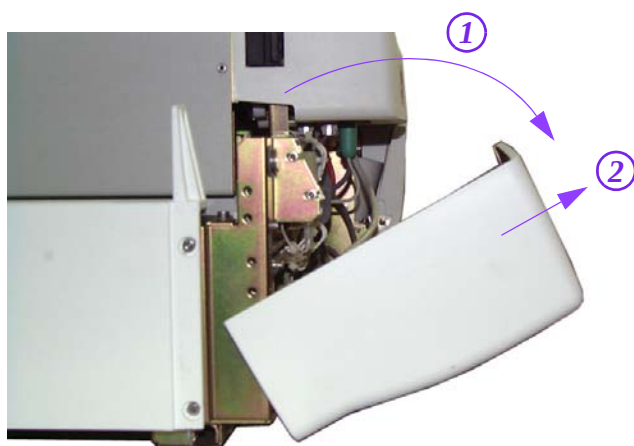

Fig. 7-21 Left Front cover
Pull the Left Front cover down, as indicated in (1), and then pull out to remove it, as indicated in (2) (see **Fig. 7-21**, page 7-19).